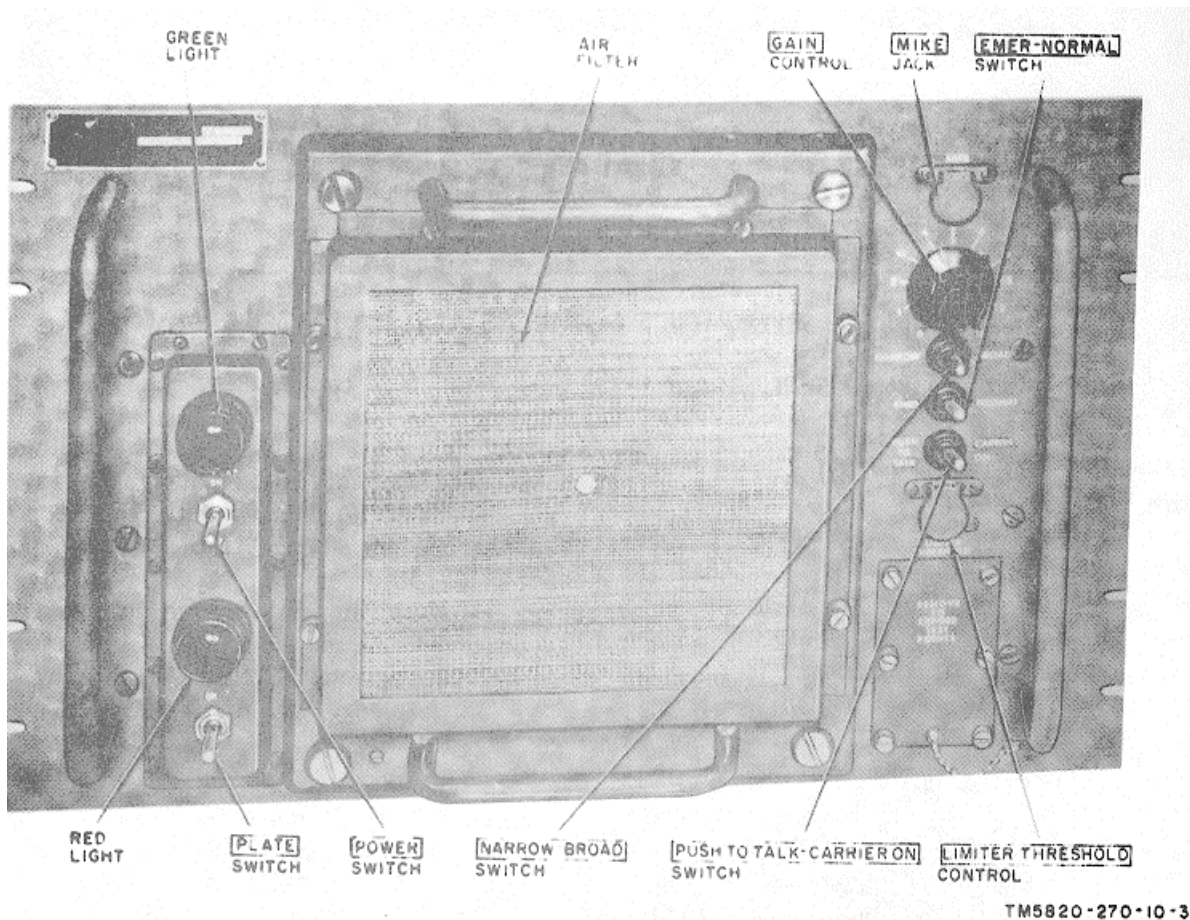

Figure 2-1. Modulator-Power Supply MD-141(*)/GR, front panel.
- a. To prevent blown power fuses, check the voltage designation plate (fig. 2-1) before operation to see that it indicates the same voltage as that of the power source being used.
(fig. 2-1)